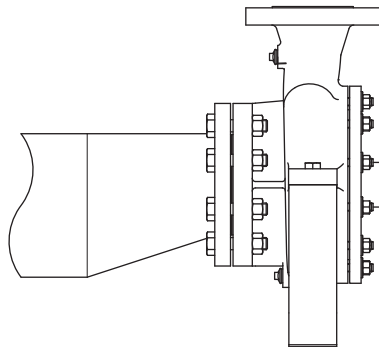

Figure 3: *Eccentric reducer to suction flange.*
- The passage of the suction pipe must be amply dimensioned. This pipe should be as short as possible and run towards the pump in such a way that no air pockets can arise. If this is not possible, a venting facility should be provided at the highest point of the pipe. If the inside diameter of the suction pipe is larger than the suction connection of the pump, an eccentric reducer should be applied to prevent air pockets and whirls. See figure 3.